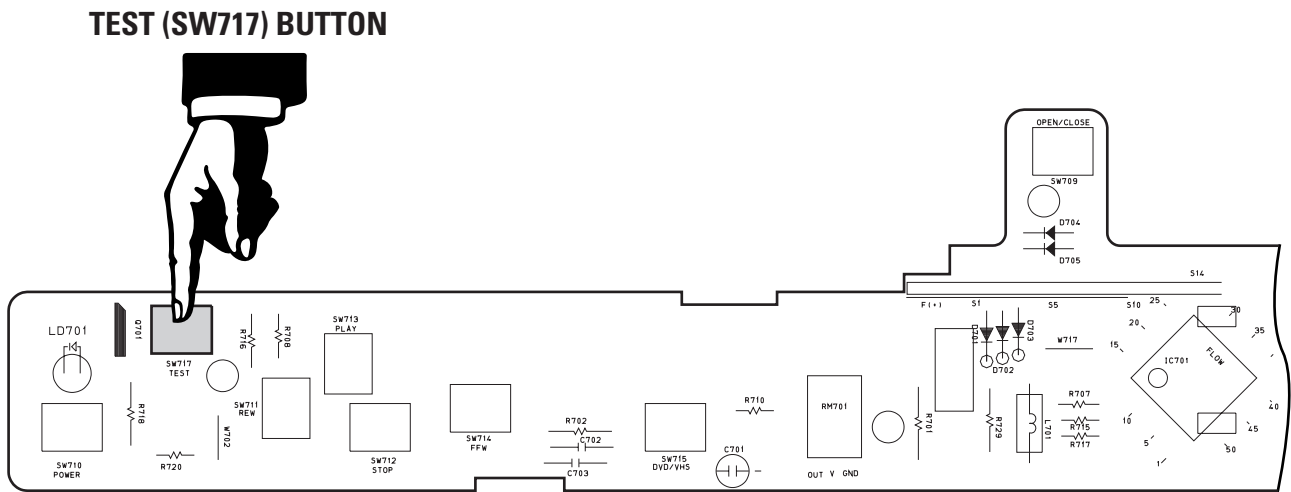

Fig. 4-2 Function-Timer PCB (Top View)
- 2) Press the "SW717 (TEST)" button on F/Timer PCB to set the adjustment mode. (See Fig. 4-2)